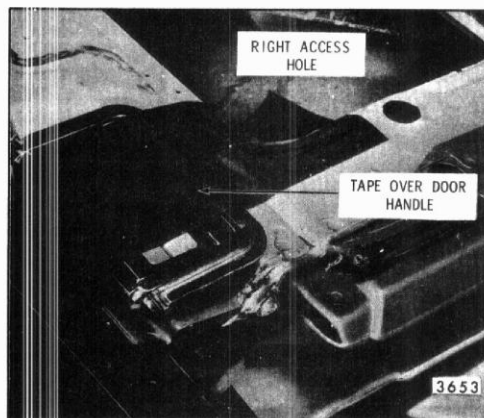

Fig. 9-25-Inside Handle (Door Operation) Taped
**CAUTION:** With tail gate open in a gate position and upper locks engaged, the tail gate has been placed in a vulnerable position and could drop from the right lower lock if the inside DOOR remote handle was actuated. As a safety precaution, prior to manually locking either right or left upper locks, apply body tape over inside door remote handle to render same inoperable (See Fig. 9-25).
**CAUTION:** With tail gate open, in a gate position, and upper locks manually engaged, the tail gate has been placed in a vulnerable position and could drop from the right lower lock if the inside DOOR remote handle was activated, which could result in personal injury or damage to the tail gate assembly. As a safety precaution, prior to manually locking either right or left upper locks, apply body tape over inside door remote handle to render same inoperative (See Figure 9-25).
**CAUTION:** With tail gate open and upper locks manually engaged, the tail gate has been placed in a vulnerable position and could drop from the right lower lock if the inside DOOR remote handle was activated, which could result in personal injury or damage the tail gate assembly. As a safety precaution, prior to manually locking either right or left upper locks, apply body tape over inside door remote handle to render same inoperative (See Figure 9-25).
**CAUTION:** As a safety precaution, prior to manually locking either right or left upper locks, apply body tape over inside door remote handle to render same inoperative (See Figure 9-25). With tail gate open and upper locks manually engaged, the tail gate has been placed in a vulnerable position and could drop from the right lower lock if the inside DOOR remote handle was activated. A tail gate dropping from the right lower lock, when opened in a gate position, could result in personal injury or damage the tail gate assembly.
**CAUTION:** As a safety precaution, prior to manually locking either right or left upper locks, apply body tape over inside door remote handle to render same inoperative (See Figure 9-25). A tail gate open, in a gate position, and upper locks manually engaged, the tail gate has been placed in a vulnerable position and could drop from the right lower lock if the inside DOOR remote